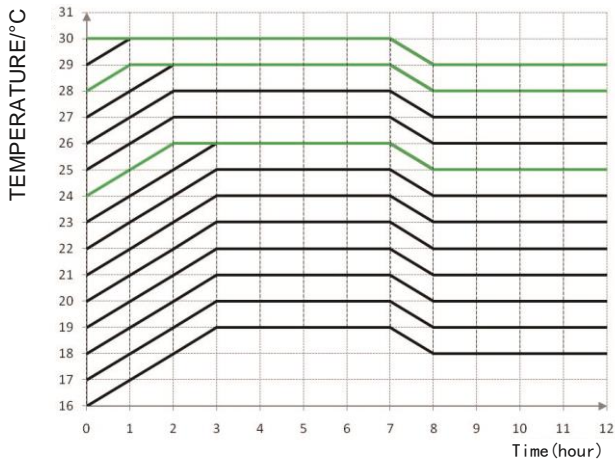

Fig.14 Sleep Curve under the COOL Mode
- ①. The Sleep function is defaulted to be OFF after power recovery.
- ②. The Sleep function is unavailable under the Fan mode.
- ③. When the Quiet function is activated, the Quiet function will always keep the unit ON regardless if the Sleep function is activated or deactivated.
- ④. Under the Cool mode, the Sleep function is ON, the setting temperature range can be 16-23°C, 24-27°C, 28-29°C or 30°C. Each of them has a different curve as shown in Fig. 14 below.